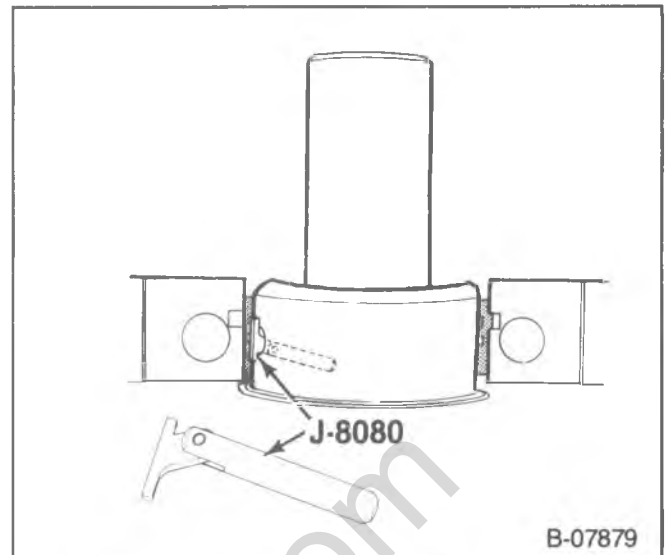

Figure 33—Removing the Main Bearing
↔ Remove or Disconnect (Figure 33)
- Insert J-8080 into the crankshaft oil hole (figure 33).
- Insert tool J-8080 into a crankshaft main bearing oil hole (figure 33).